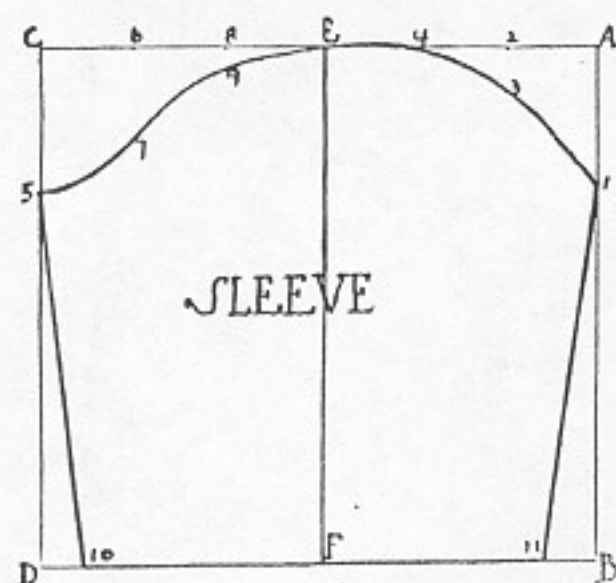
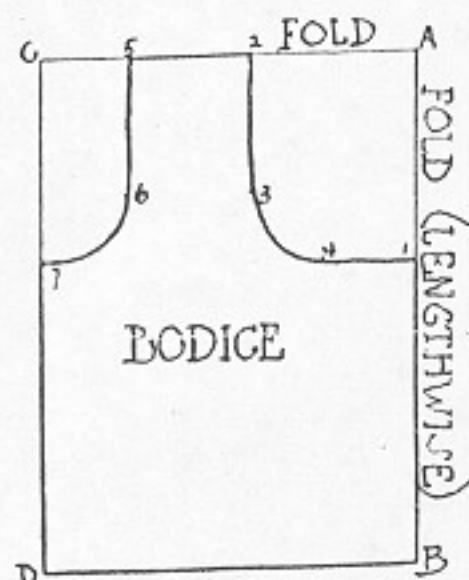

FIG. 2
FIG. 3
SAFETY POCKETS FOR TRAVELERS. The first of leather, the second of linen. Cut a strip of kid 14" long and 6" wide. Round the corners. Line with silk, turning edges in. Stitch around lid A. Cut two pockets, B, $2\frac{1}{2}$ " square, rounding lower corners, and stitch as shown. Cut pocket lids, C, $1\frac{1}{2}$ " deep and 2" wide. Turn lid A on dotted line. Stitch on *ab*, including lids C. Cut strip of green taffeta silk (2). Baste on strip of kid *ghij*. Cut a strip of kid 7" $\times$ 6". Line part corresponding to *ghkl* with silk and stitch edges. Adjust this to silk (2), upper edges corresponding. Stitch on *gh*. Cut silk strip 7" $\times$ 6" (3). Apply kid strip 6" $\times$ 2" to upper part, cut as at *mn*, stitch, and place 3 upon 2, lower ends corresponding. Stitch sides and base, making inside pocket. Cut strip of kid 6" $\times$ 6". Line with silk, turn in edges. Stitch across top. Apply to 3, lower edges corresponding. Stitch 1, 2, 3, together. When completed, there is the long pocket, length of Fig. 2; middle pocket, length of Fig. 3, its lid buttoning on narrow kid on *gh*; and outside pocket, with *ghlk* for a lid. Buttons should be brown, and fasteners are ball and socket, glove style, or dress style sewed on. For pocket No. 2 cut a strip of butcher's linen 8" long and 5" wide. Cut off the corners of the lid as shown in the diagram, Fig. 4; turn in the edges on all sides; line with thin linen or Persian lawn; stitch; fold to make a pocket $2\frac{1}{2}$ " deep. Ornament the lid with large dots heavily padded. In the center cut out the cloth and fill in with lace stitches for the medallion. Fasten